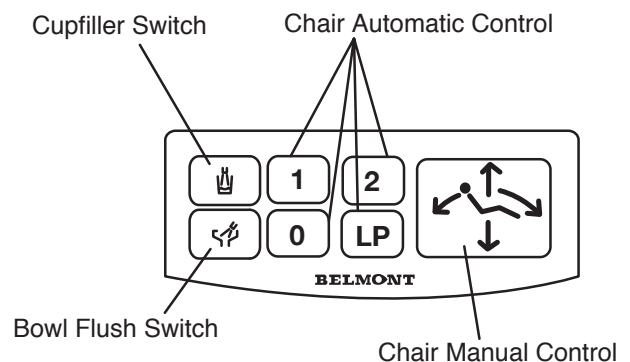

Fig.3-3 Membrane Switch A
3. CHAIR CONTROL (Fig.3-3)
(By AIR TIMER SYSTEM) (Fig.3-3)